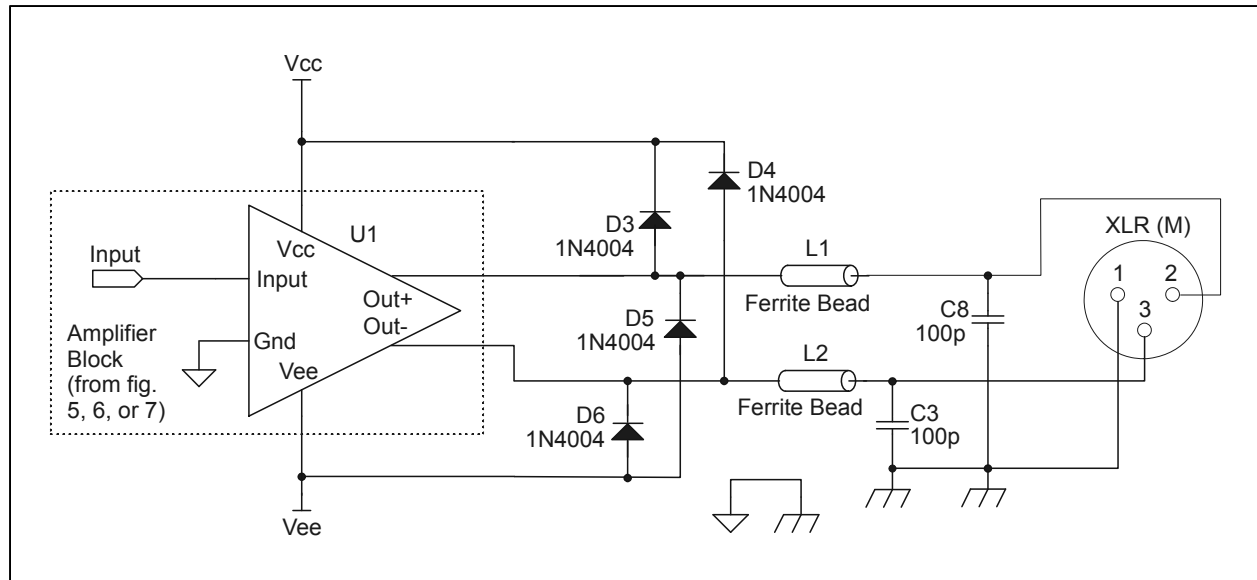

Figure 8. THAT 16x6 applications circuit with output common-mode offset protection, RFI protection, and surge protection
3. Please refer to Figure 8 for a complete applications circuit.
These line drivers can easily drive cables hundreds of feet in length without becoming unstable, but such long cables can act as antennae which can pick up RFI and direct it into the circuit. The circuit of Figure 8 includes two 100 pF bypass capacitors (C3 and C8) and two ferrite beads, whose purpose is to redirect this RF energy to the chassis
To protect against microphone preamplifiers that incorporate larger values of capacitance, a pair 1N4004 diodes from each output to the supply rails, as shown in Figure 8, is recommended. This shunts the discharge current to the power supply bypass and filter capacitors, thus protecting the output of the 1606 or 1646.